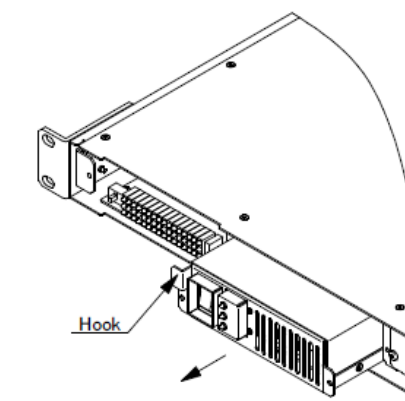

Figure 4. Extraction of the power supply module
3. Remove the two screws of the power supply module to be exchanged. Then pick out the installed power supply module carefully as shown in Figure 4.